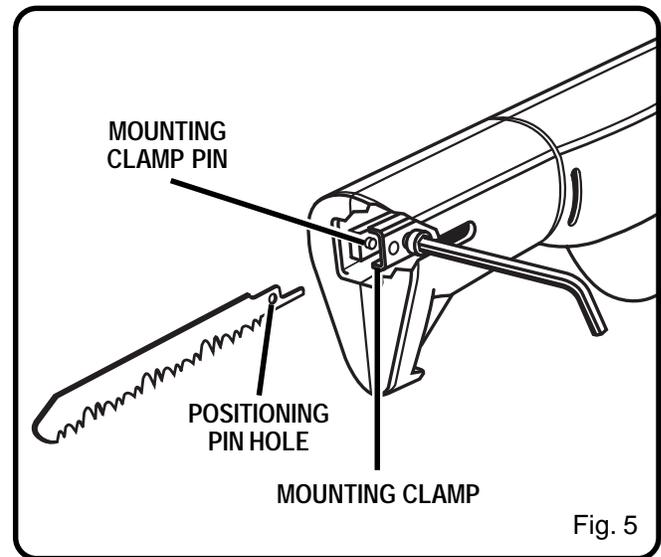

Fig. 5
- 3 Place the blade wrench in access hole and loosen the blade retaining screw. See Figure 5.
- 3 Place the blade wrench in access hole and remove the blade retaining screw. See Figure 5.
- 4 Remove the blade from the unit, making sure the blade clears the mounting clamp pin. See Figure 5.